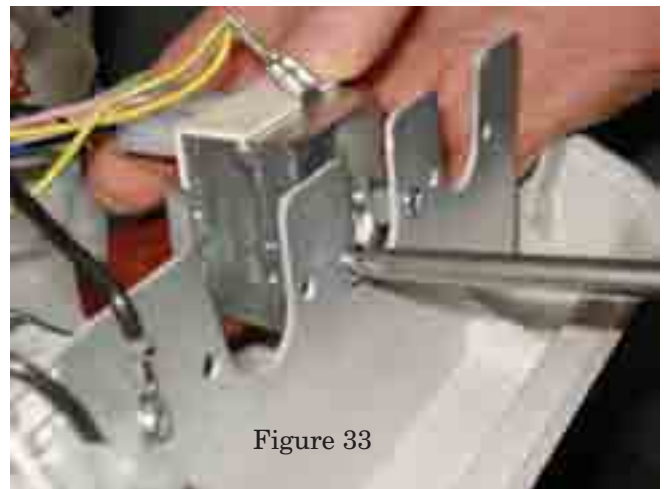

Figure 33
2. Remove the existing auto-reset water temperature limit and discard the screws. See Figure 33.